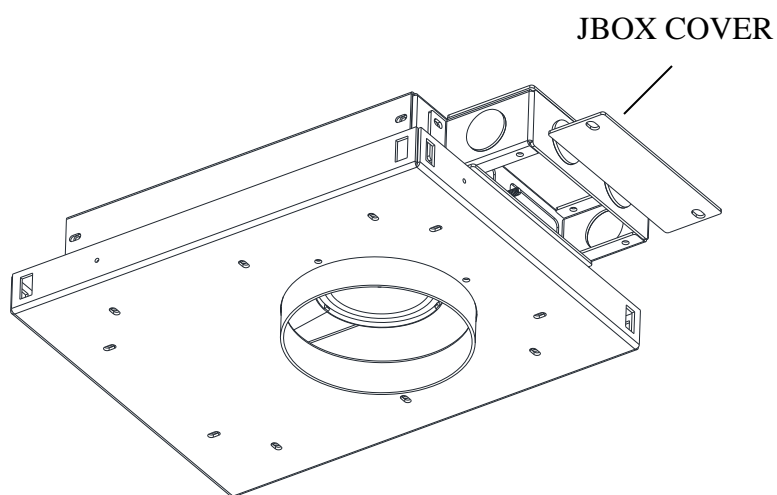

FIG 2
2. Remove jbox cover and make all connections in accordance with NEC and local codes **(FIG 2)**